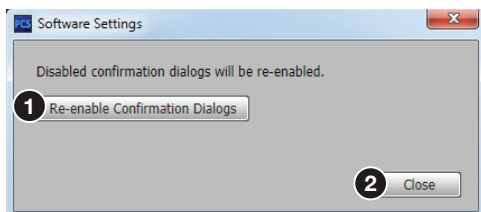

Figure 66. Software Settings Dialog Box
2. Click the **Re-enable Confirmation Dialogs** button (see figure 66, ①). The dialog box closes and the reset is complete. Click the **Close** button (②) to close the dialog box without re-enabling the confirmation dialogs.